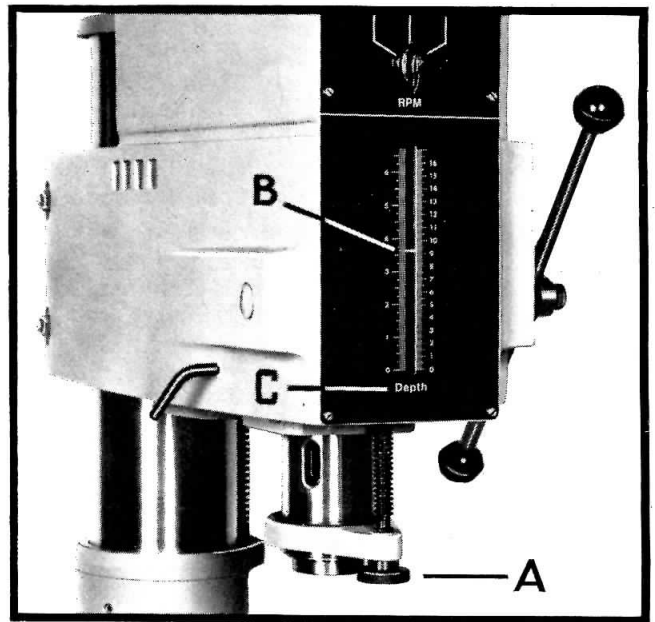

FIG. 7
To adjust the depth setting control, simply turn knob (A) Fig. 7, until line (B) on stop block is in line with the calibration on the depth scale (C) you wish to drill or tap.
G — LATERAL HEAD PLATE (FIG. 7)